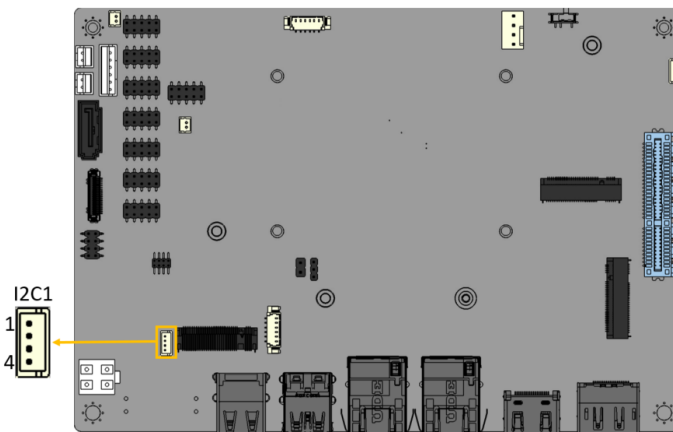

Figure 3-19: I²C Connector Location
- CN Location:** See **Figure 3-19**